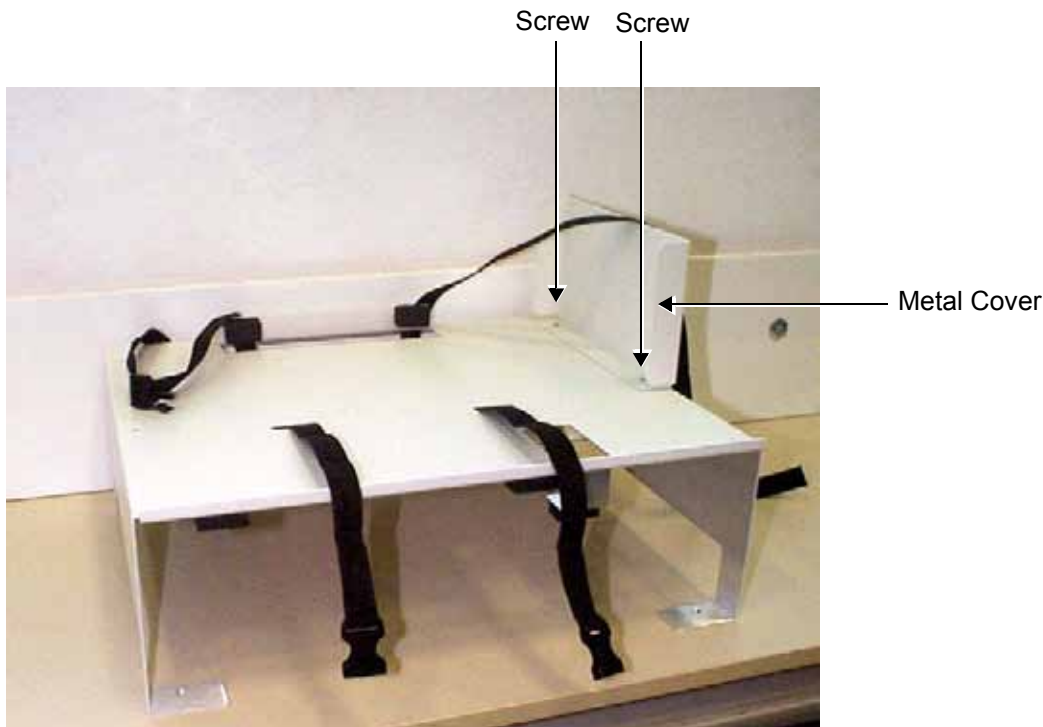
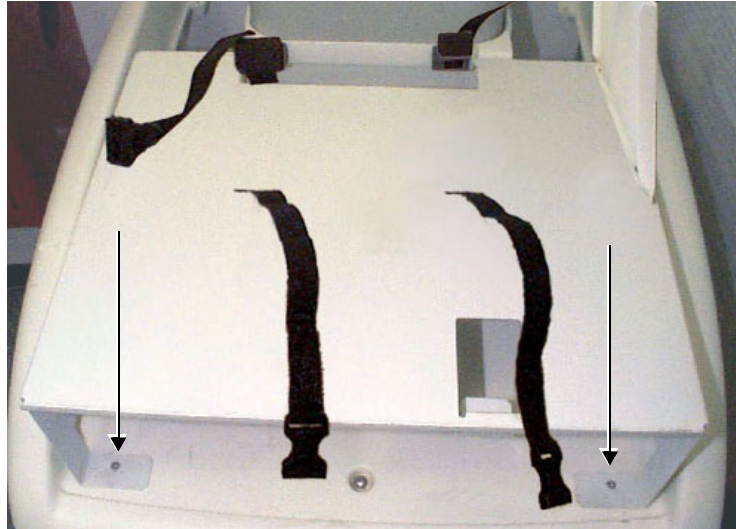

Figure 8-171 Printer Shelf with Protective Metal Cover Secured in Position
Figure 8-172 Shelf Fastened to Top Cover
- 9) Place the protective metal cover on top of the printer shelf (either on the *right* or *left* side, as preferred by the customer) and fasten securely into position to protect the connectors, using the two screws provided - see Figure 8-171 below:
- 10) Place the shelf on the top surface, with its two legs facing the front, and the stoppers (located on top of the shelf) facing the far end. Fasten the shelf to the top surface, using the screws removed in step 8, as shown in Figure 8-172 below.
- 11.) Route the end of one of the top surface securing belts down through the narrow *left* slot in the shelf (closest to the front), then thread it below the shelf, *backwards* and *upwards* through the slot at the rear of the shelf. Leave the opposite end of the belt (with the plastic buckle [female end] attached) dangling towards the front, as shown in Figure 8-171 and Figure 8-172 on page 8-170.